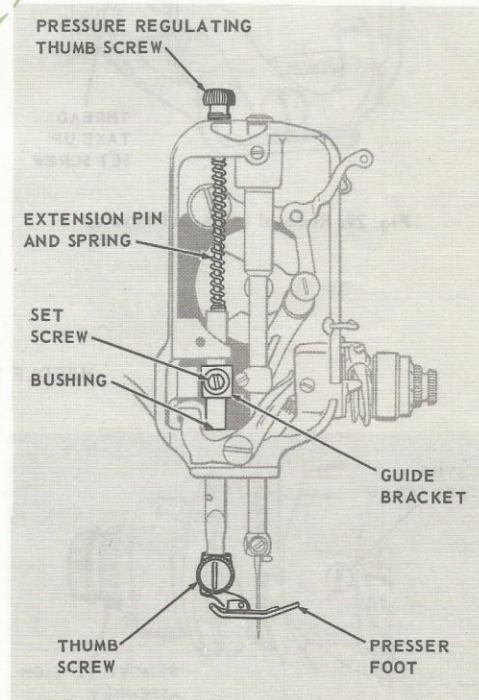

Fig. 28. Removing Presser Bar
3. Remove pressure regulating thumb screw, extension pin and spring, as shown in Fig. 28.
5. Loosen guide bracket set screw, Fig. 28, and lift presser bar up and out.
1. Replace presser bar through guide bracket, Fig. 28, and bushing.